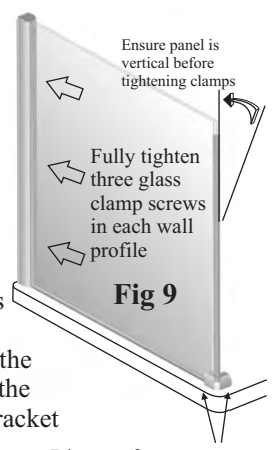
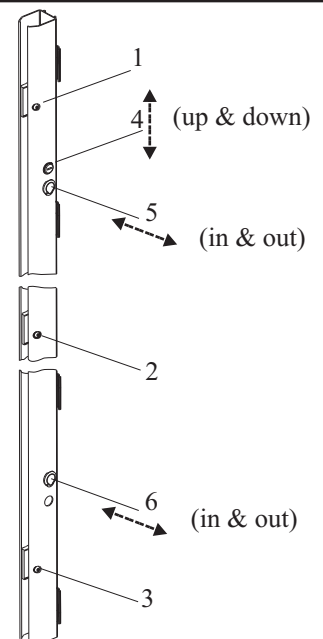

Fig 9
Fig. 19
- 4.2 Insert large side panel into wall profile glass clamps (see Fig.9) with the soft seal onto the tray and the fitted corner bracket to the front. Move the panel in or out until the corner bracket is spaced equal distance from the front edge of the tray as it is from the side face of the tray. Ensure the panel is vertical then fully tighten the 3 glass clamps screws using 2.5mm allen key supplied (see Fig 19). If after adjusting for vertical, the corner bracket is not seated firmly on the tray, loosen grub screws and tap the bracket down onto the tray (caution - do not exceed 5mm adjustment on this bracket) Pack between bracket and tray if you require more adjustment. Repeat for installing right side panel.
14 FINAL CHECK AND ADJUSTMENT, Open and close the sliding door and check that it runs smoothly. If not, check that the frame is vertical (in to out) and not twisted. If necessary the frame can be adjusted using the lateral adjustment screws see Fig. 19 in guide to adjustments stage 8